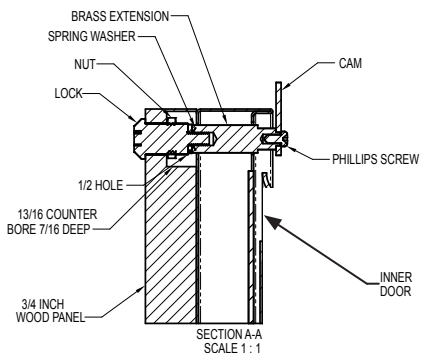

Figure 19
Two (2) lock extensions are provided with the lock. Use the longer extension for $\frac{3}{4}$ " thick overlay panels and the shorter one for $\frac{5}{8}$ " thick overlay panels. Assemble the lock extension, cam stop washer, spring washer, and set screw to the lock as shown in Figure 19 and 20.